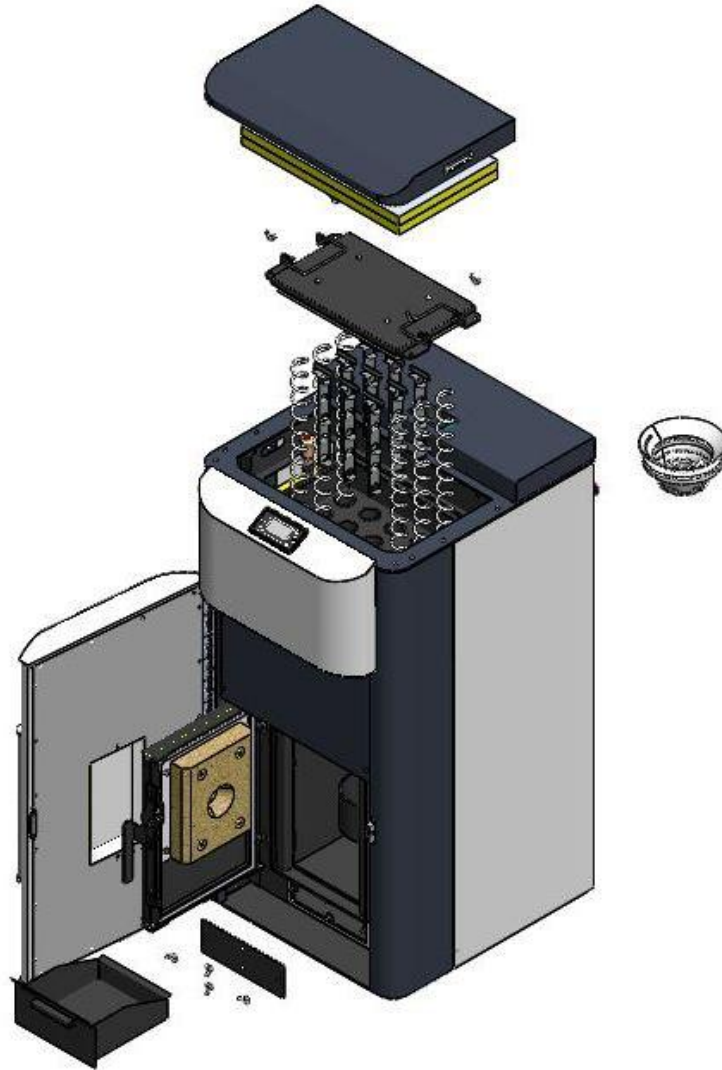

Figure 23. View of elements that are dismantled during the cleaning
- In every 3 to 4 days it is necessary to clean the space of combustion chamber (**figure 23**). Also it is necessary to clean the deposits on the walls of the firebox. By this we provide a better transfer as one millimeter layer of tar and soot decreases the conductivity by 5%.
- Once in every two weeks it is necessary to open the top cover for cleaning, remove the turbulators and from the whole available part of the boiler remove tar and soot (Figure 23). All that is removed can be picked off through the combustion chamber. Also, at that time, flue gas pipe should be removed from the rear of the boiler as to be cleaned from ashes and soot (**NOTE: Pay attention to the probe for the flue gases when removing the chimney**).